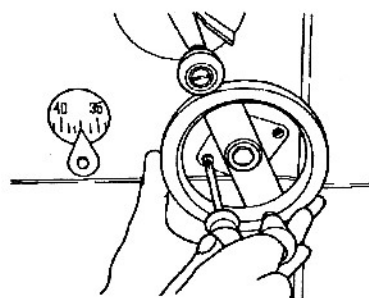

Fig. 32
44. Use a medium Phillips screwdriver to attach the left and right screws (59), as shown in Figs. 32 and 33. Before securely tightening the screws, push the bevel crank up toward the height adjustment handle. This will ensure maximum teeth engagement.